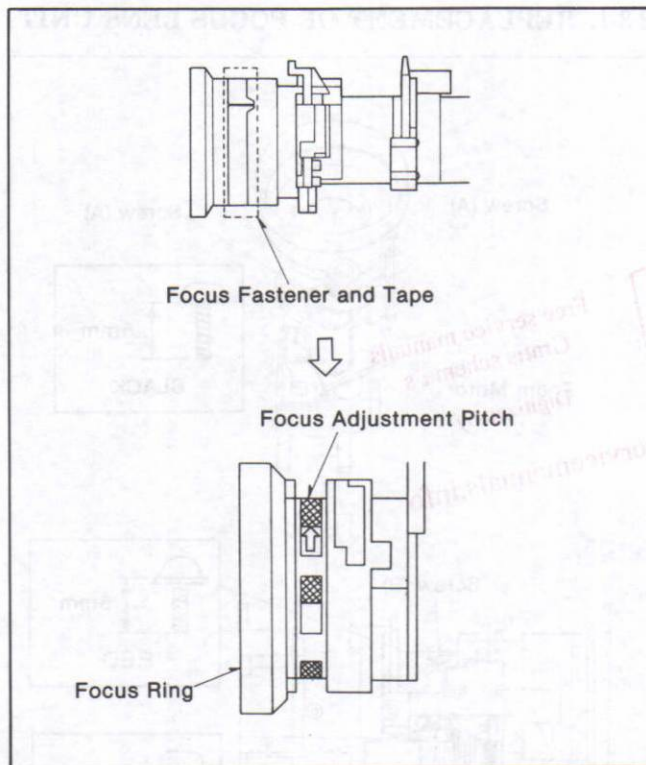

Fig.M2
- (1). Remove the camera unit from the VHS-C Movie.
- (2). Remove the C.B.As (Process, Auto Focus, Sensor) from the camera unit.
- (3). Unscrew the two screws (A) and remove the zoom motor.
- (4). Unscrew the two screws (B) and remove the encoder C.B.A.
- (5). Unscrew the screw (C) and remove the camera angle.
- (6). Remove the focus fastener and tape as shown in Fig.M2.
- (7). Remove the focus ring by turning the focus adjustment pitch to the counter clockwise.
- (14). Install the C.B.As (Process, Auto Focus, Sensor, Encoder) and zoom motor in reverse assembly order.
- (15). After installation of the focus ring, adjust the position of focus adjustment pitch and back focus pitch as follows.
- d. Adjust the focus adjustment pitch (refer to Fig. M2) to obtain the best focus and stick the tape (which was stuck on the unit before) on to the focus adjustment pitch (refer to Fig.M2).
- e. Install the focus fastener as shown in Fig.M2.